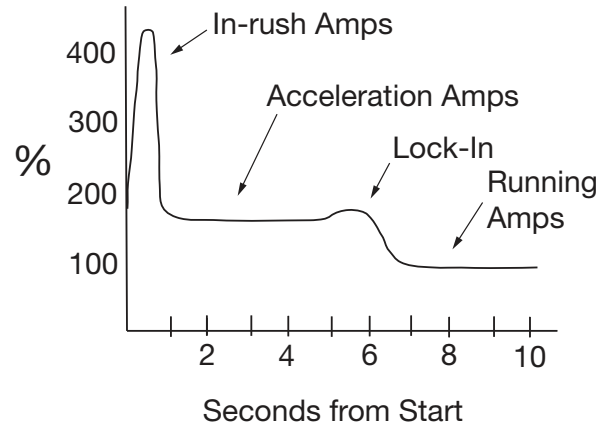

Figure 2 - Flow Charge Ratio Operation
5. Push start button. Observe motor current during load acceleration and number of seconds required to reach full speed (Fig. 2).